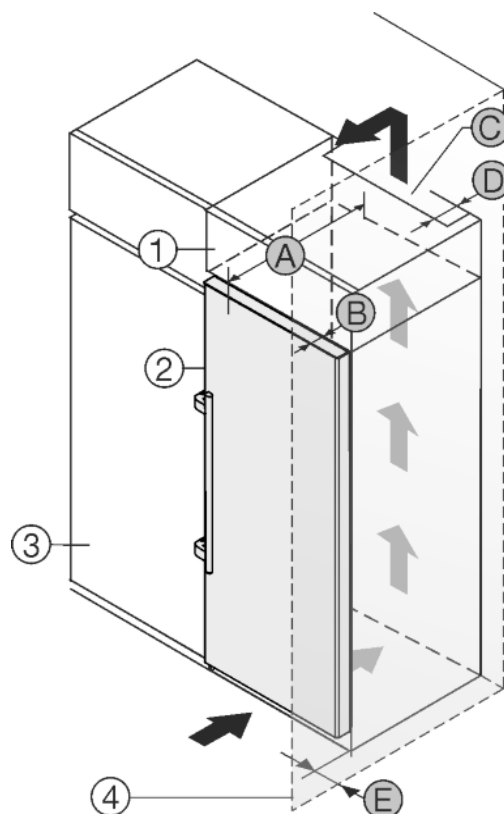

Fig. 30
The appliance can be built into kitchen units. A top cupboard *Fig. 30 (2)* can be added above the appliance in order to bring the appliance *Fig. 30 (1)* up to the height of the fitted kitchen units.
The appliance can be installed right next to the kitchen cabinet *Fig. 30 (3)*. The appliance must stick out by the depth *Fig. 30 (B)* from the front of the cabinet so that the doors can be opened fully. The appliance may protrude further depending on the depth of the kitchen cabinets and whether wall spacers are used.
- There must be a ventilation shaft with the depth *Fig. 30 (D)* at the back of the top cupboard over the entire width of the cupboard.
- The ventilation shaft *Fig. 30 (C)* must be observed under the ceiling.
If the appliance is installed with the hinges next to a wall *Fig. 30 (4)* the distance *Fig. 30 (E)* between the appliance and the wall must be observed. This is how far the handle protrudes when the door is open.